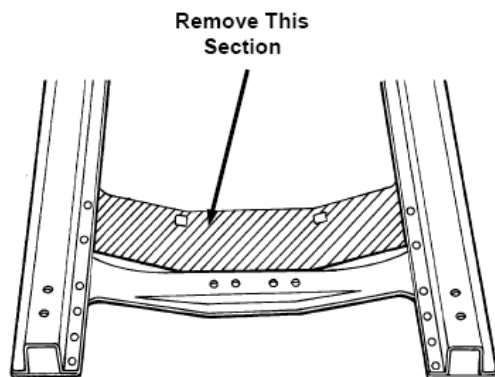

Figure 1- Trim Front Crossmember
3. The stock front crossmember must be trimmed next. Refer to **Figure 1** to see what to trim off. A cutting torch works best for this; however, a saw or plasma cutter could be used. In addition, the flanges on the underside of the frame rails which were attached to the trimmed off crossmember section should be trimmed off also. Note that the frame shown is a parallel leaf, solid axle type front end. The knee action front crossmember should be trimmed in a similar manner. See **Figure 2**.